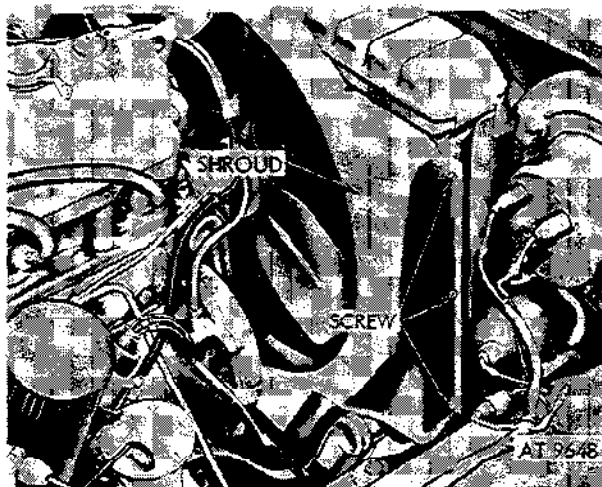

Figure 2-136. Remove radiator.
(6) Remove six screw and lockwasher assemblies from fan shroud and remove radiator (fig. 2-136).
b. Installation. Install radiator by reversing removal operations. Refer to figures 2-136 back to 2-132. Torque the following attaching parts to the values shown: